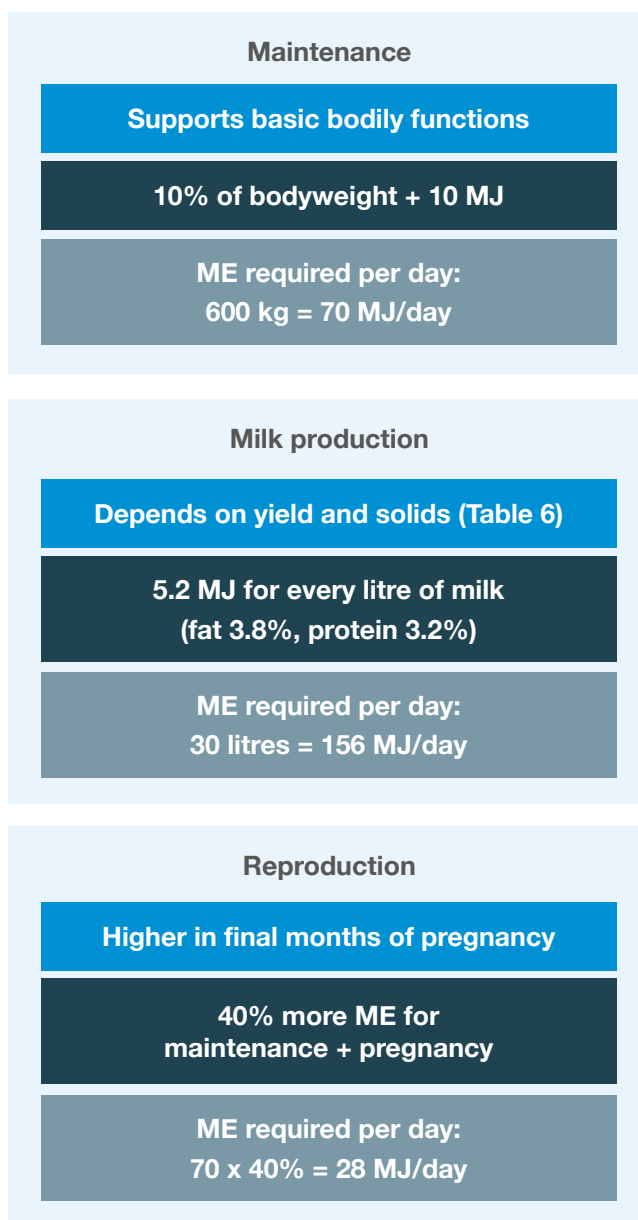

Figure 9. Factors affecting energy requirements
The UK system uses metabolisable energy (ME) expressed in MJ for the total daily energy requirement, or in MJ/kg DM for energy density of the diet. In adult cows ME is used to cover the needs for maintenance, milk production and reproduction (Figure 9).